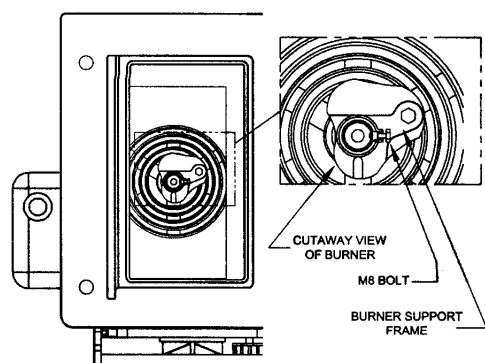

Fig.31
3. Disconnect the oil line from the burner and remove the burner from the firebox by undoing the M8 bolt on the side of the burner support frame (See Fig.31).